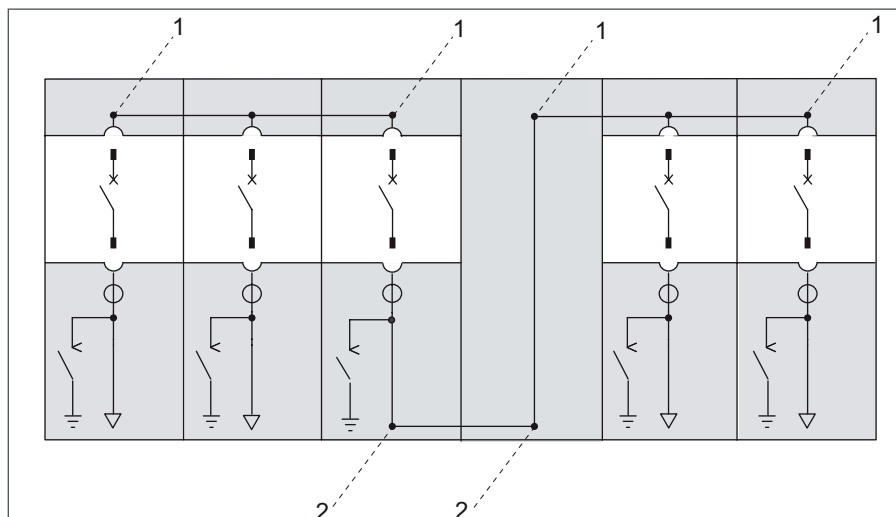

Figure 56
1. In busbar end panels, the phases L1 and L3 are required to be screw fastened to electrodes in accordance with PIX 24 (Figure 56, 1)
2. In the bus section coupler, all phases L1, L2, and L3 in the lower busbar are required to be screw fastened to electrodes in accordance with PIX 24 (Figure 56, 2)